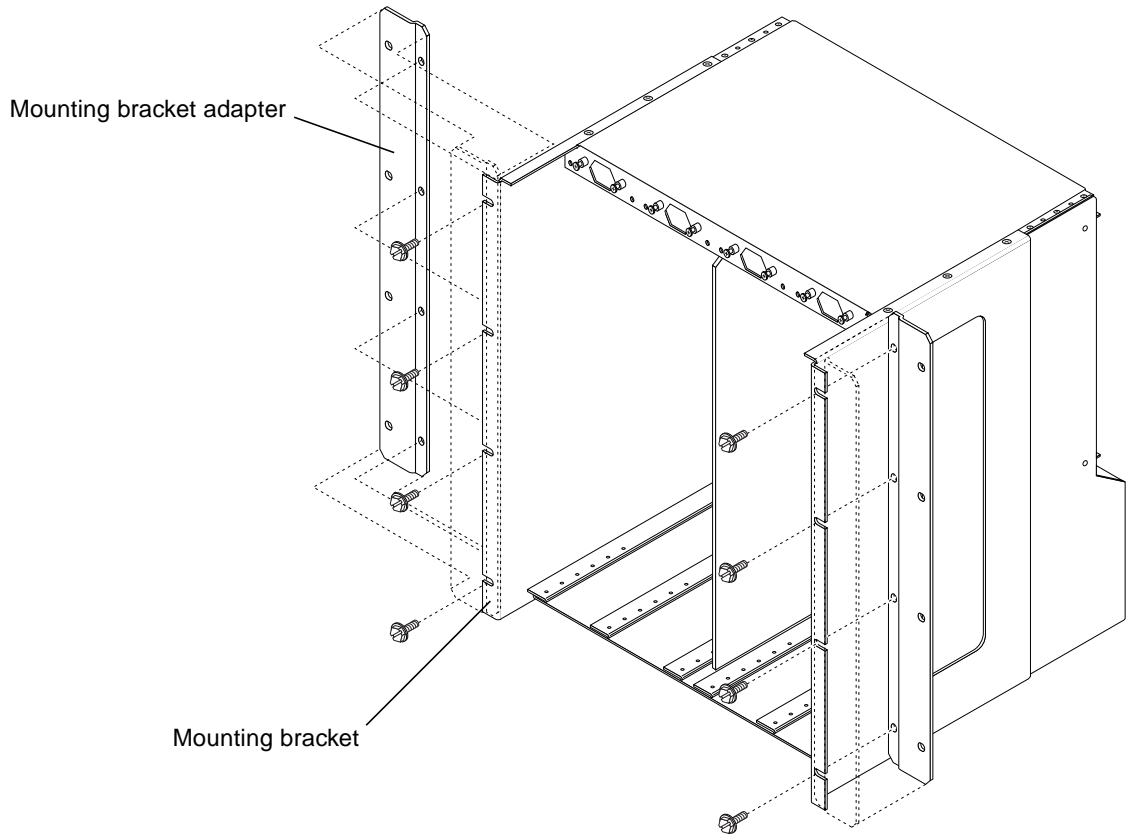

FIGURE 3-2 Installing the Mounting Bracket Adapters
2. **Place one of the mounting bracket adapters behind the right chassis mounting bracket, and align the holes in the adapter with the mounting bracket (FIGURE 3-2).**